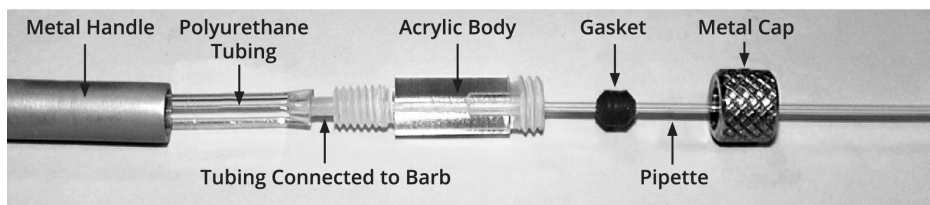
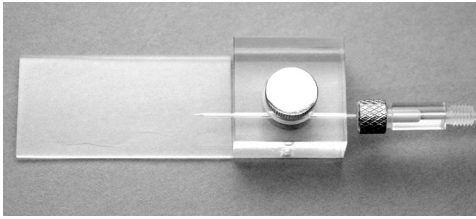

Fig. 10—Micropipette Holder Assemblies
Fig. 12— Acrylic micropipette holder
Two sets of micropipette holder assemblies are provided in the PicoNozzle Kit (WPI #5430-ALL). For fire polishing, coating and pressure forging, one holder should be assembled **without** the heavy metal handle (Fig. 12). For pipette tip diameter calibration and microinjection, the other holder should be assembled **with** the metal handle (Fig. 10).
- b. Place the pipette in the acrylic pipette holder (Fig. 12).
4. Connect the polyurethane tubing to the air output line on the back of the Control Unit (Fig. 6). The other end of the polyurethane tubing must be connected to the barb of the acrylic body (Fig. 10). Be careful that the barb does not break when attaching or removing the tubing.